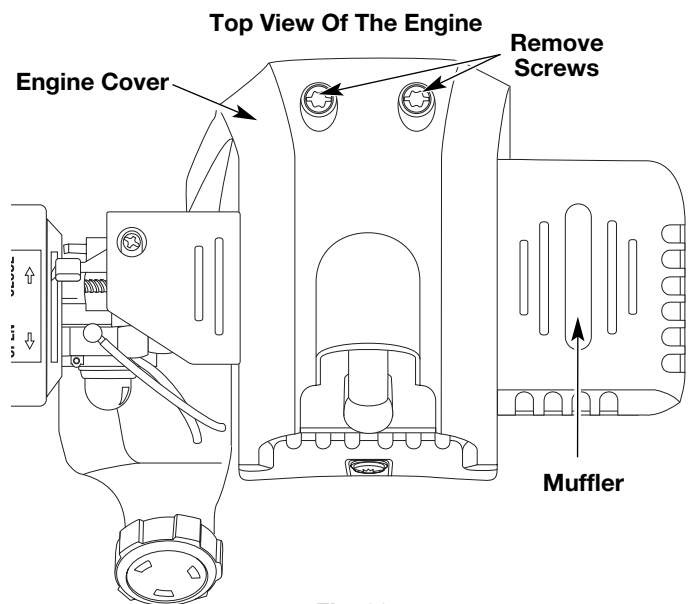

Fig. 23
- Remove the two (2) screws on top of the engine cover with a Flat-head or T-25 Torx screwdriver (Fig. 23).